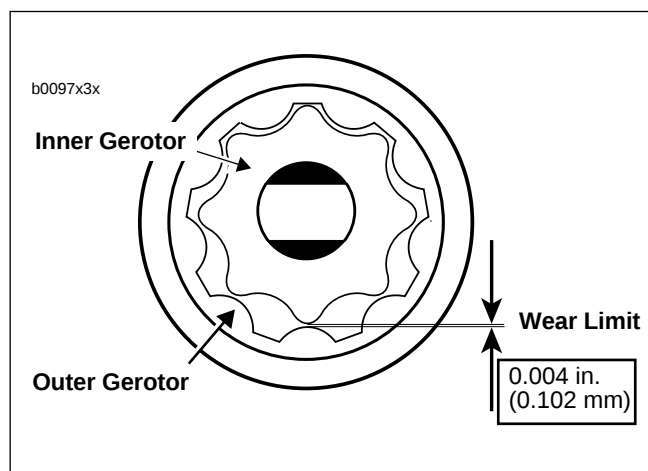

Figure 3-53. Gerotor Wear Limits
2. See Figure 3-53. Inspect both gerotor sets for wear.
3. Check gear shaft (11) teeth for damage or wear. Replace if necessary.